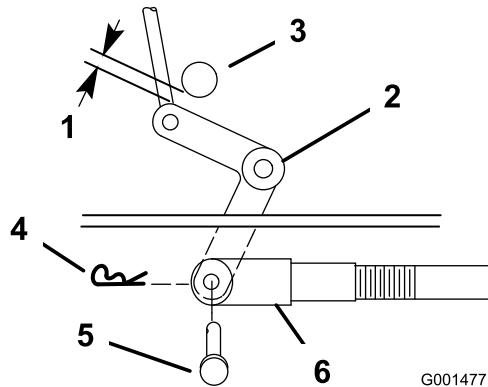
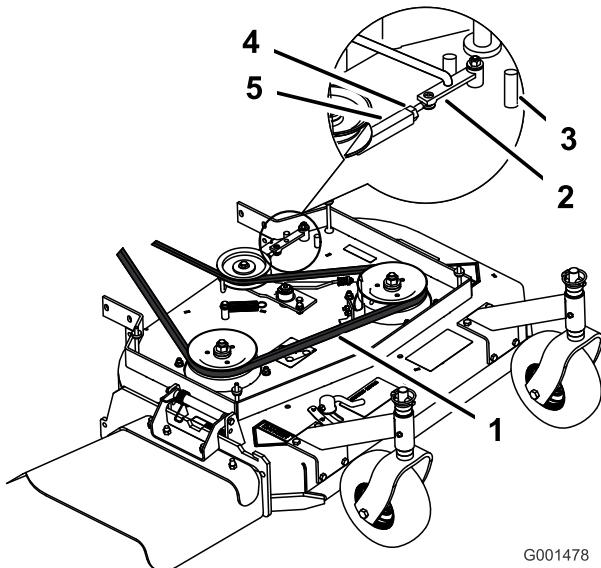

Figure 35
Figure 36
- Check the clearance between the bell crank and the transmission output shaft (Figure 35).
11. Rotate the clevis clockwise on the rod to increase the clearance; rotate it counterclockwise to decrease it (Figure 35).
Note: If the assist arm does not contact the front stop on the mower deck (Figure 36), adjust the clevis to bring the bell crank closer to the transmission output shaft (Figure 35).
3. Loosen the locknut on the turnbuckle (Figure 36).
4. Rotate the turnbuckle toward the rear of the mower to increase the tension on the belt. Rotate the turnbuckle toward the front of the mower to decrease the tension on the belt (Figure 36).